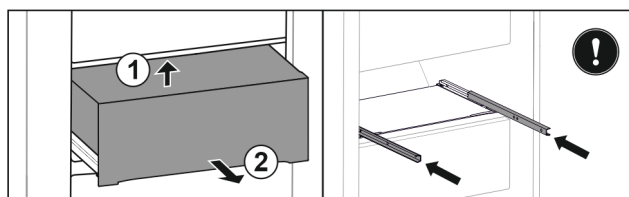

Fig. 49
- Lift drawer from below. Fig. 49 (1)
- Remove drawer to the front. Fig. 49 (2)